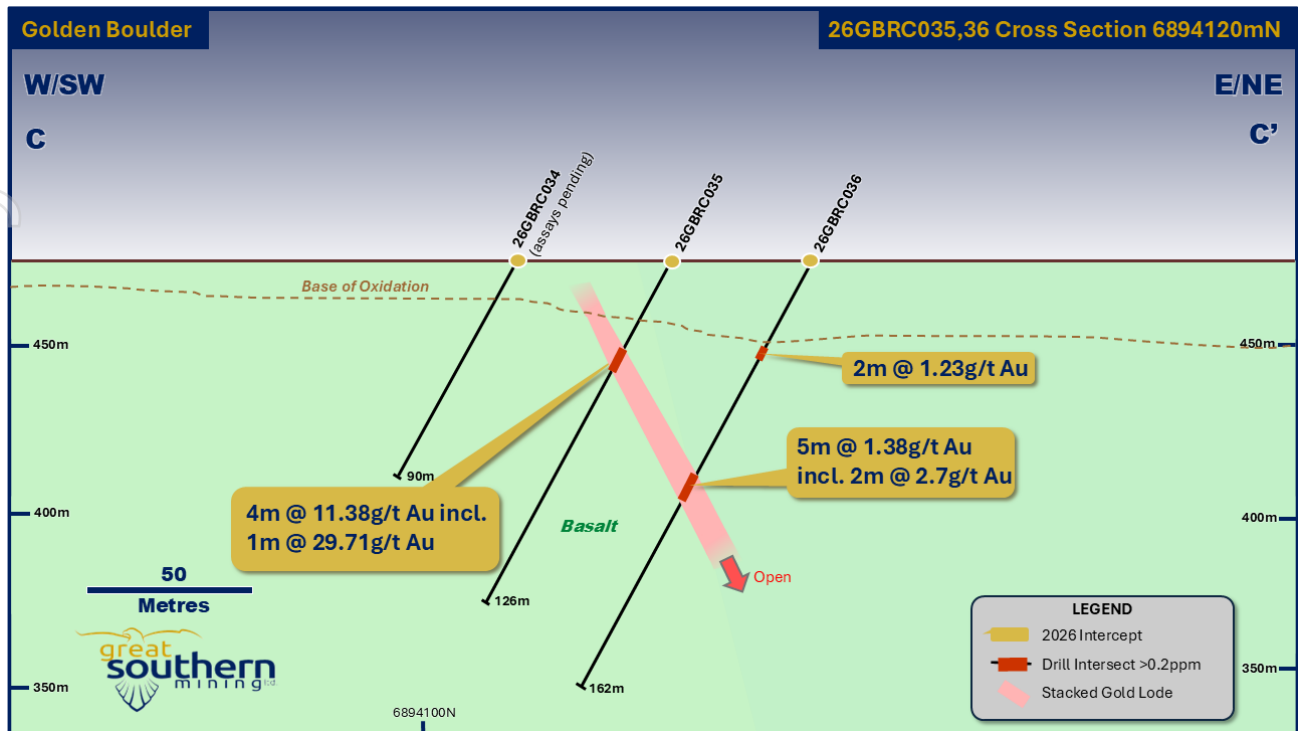

Figure 4. Interpreted cross-section at 6894120mN showing results from recent drill holes 26GBRC035 and 26GBRC036.
- **4m at 11.38 g/t Au from 45m, including 1m at 29.71 g/t Au** in hole 26GBRC035 (Figure 4)